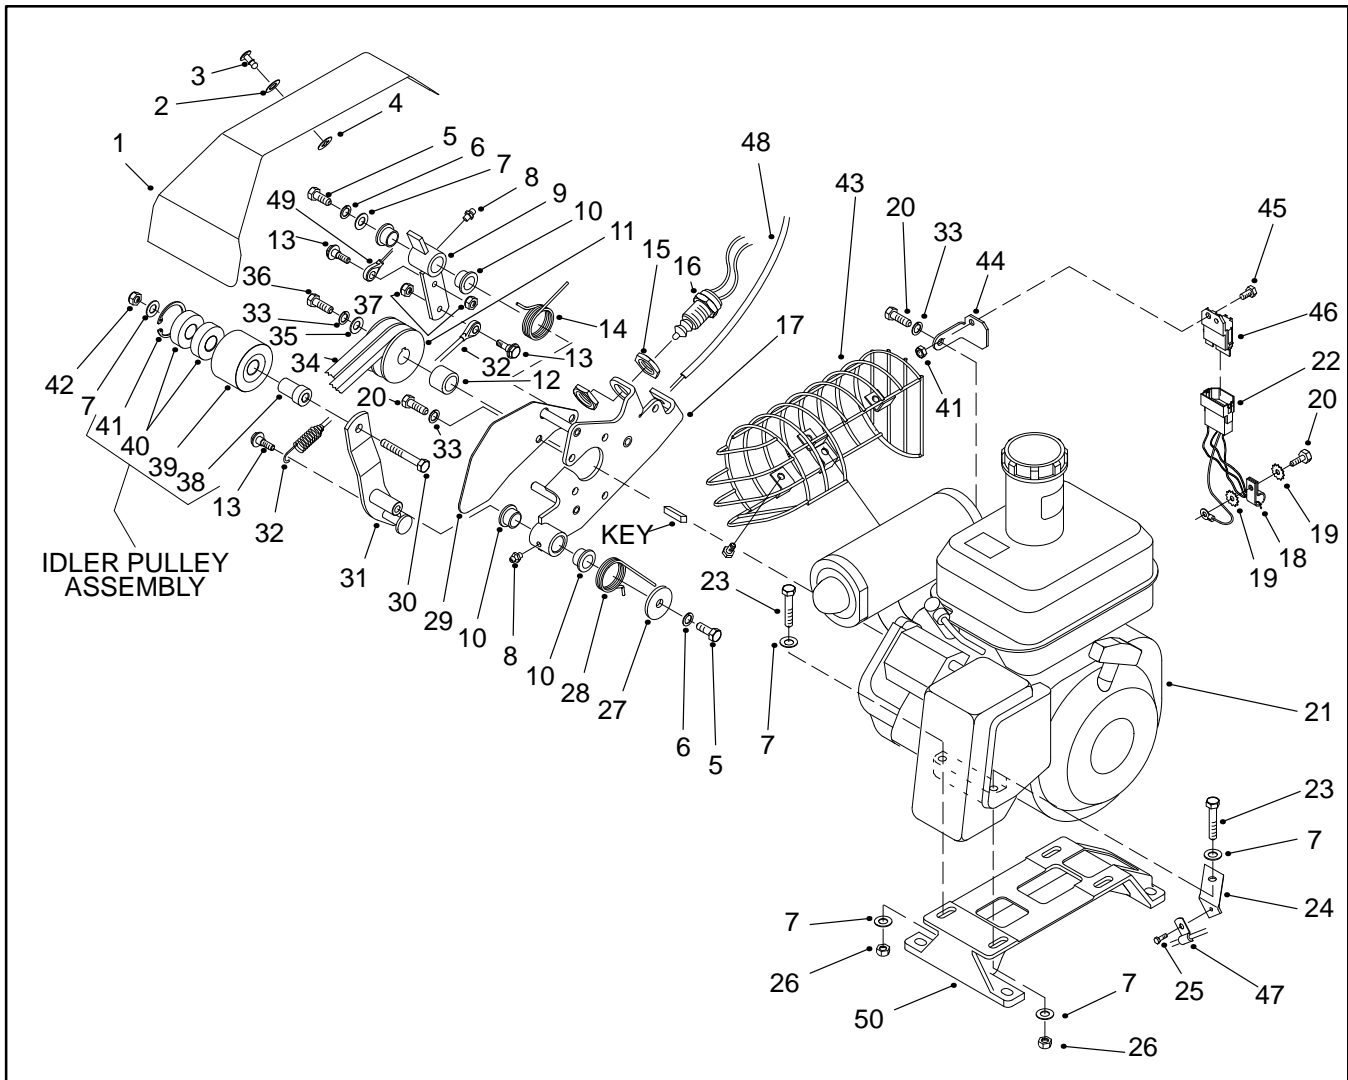
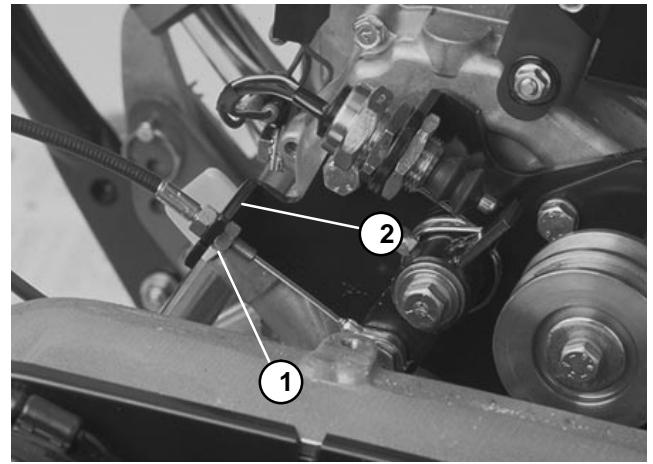
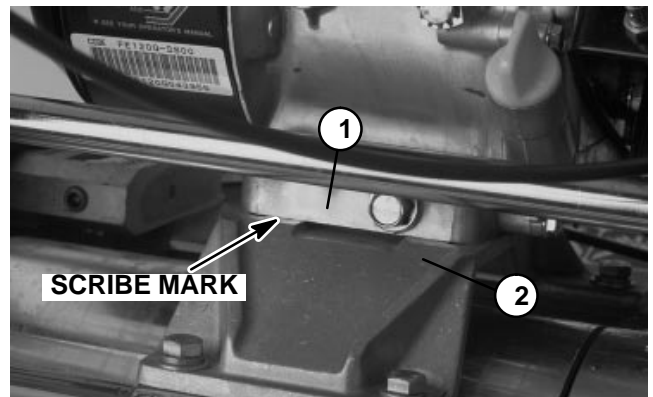

Figure 12
Figure 13
Figure 15
3. To increase V-belt tension, loosen cap screws securing the engine to the engine base (Fig. 12). Move engine backwards in slots. **DO NOT OVER TENSION BELTS.** Tighten cap screws.
2. Remove pulley V-belts (Fig. 12).
A. Make sure clutch is DISENGAGED so the V-belts (34) are slackened. Make sure service brake is DISENGAGED so the input shaft pulley can turn.
B. Open bellcrank cover (1) on the counter shaft housing to get access to the clutch. Remove V-belts one at a time by sliding the belt off the idler pulley (39) first.
3. Remove clutch cable (Fig. 12).
A. Remove shoulder bolt (13) and lock nut (37) from the clutch cable eyelet (49) and lever (9).
B. Loosen lower jam nut holding the clutch cable to the clutch bracket. Remove clutch cable from the clutch bracket and clear of engine (Fig. 13).
B. Remove cap screw (23), flat washers (7), and lock nut (26) from the engine base (49) and throttle cable bracket (24). Pull throttle cable (47) and bracket clear of the engine (Fig. 12).
A. Scribe a mark on the engine base at the bottom of the engine for reassembly purposes (Fig. 15).
B. Disconnect both black\white wires on the clutch switch (16) from both brown wires.
C. Remove remaining cap screws (23), flat washers (7), and lock nuts (26) from the engine base (49). Remove the engine from the cutting unit.
6. The bellcrank assembly can be removed from the engine with minimum disassembly (Fig. 12).
A. Remove cap screw (36), lock washer (33), and washer (35) from the engine shaft. Remove pulley (11), key, and spacer (12) from the engine shaft.
B. Remove five cap screws (20) and lock washers (33) securing the belt shield (29) and clutch bracket (17) to the engine block.
3. Make sure bellcrank cover (1) is open on the counter shaft housing to get access to the clutch (Fig. 12).
4. If the bellcrank assembly was removed from the engine (21), reassembly as follows (Fig. 12):
A. Position clutch bracket (17) to the engine with the long arm of the clutch torsion spring (28) under the engine.
B. Position belt shield (29) to the engine. Secure belt shield and clutch bracket to the engine with five cap screws (20) and lock washers (33).
D. Place engine shaft spacer (12) on the engine shaft and reinstall key. Apply never seize to the shaft.
E. Place input drive pulley (11) on the engine shaft with the counter bore out. Secure pulley to the shaft with cap screw (36), lock washer (33), and washer (35).
A. Reinstall clutch cable into notch of clutch bracket and clear of engine. Tighten lower jam nut holding clutch cable to clutch bracket (Fig. 13).